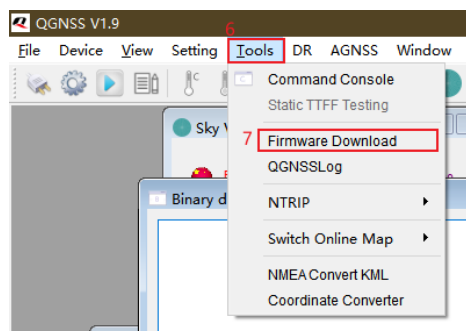

Figure 15: Firmware Download
Step 6: Click “Tools” as shown in the Figure 15: Firmware Download.